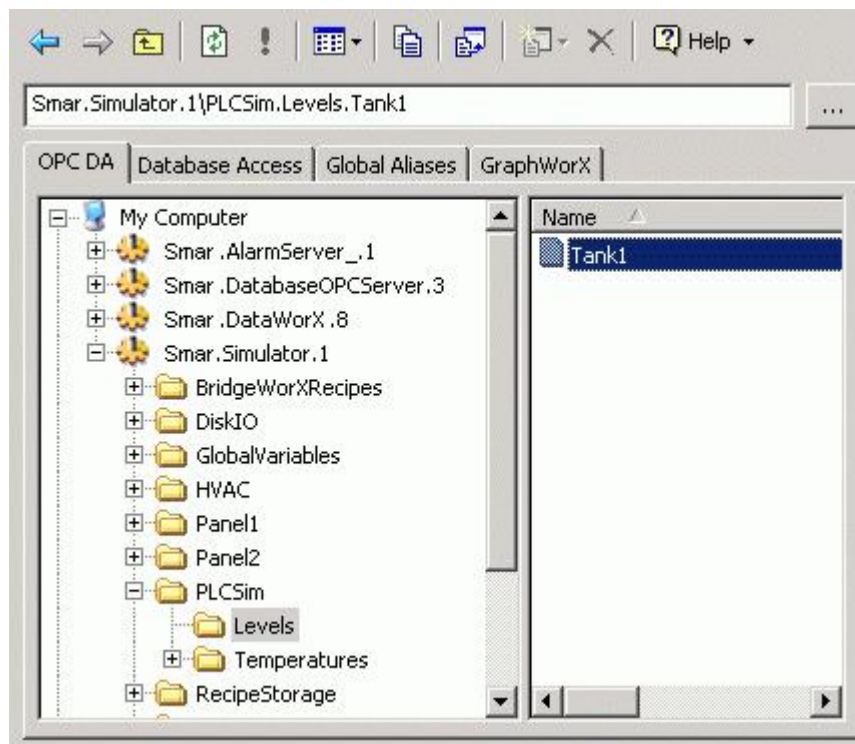

Figure 5.8. Tag Browser
4. The **Unified Data Browser** appears, as shown in **Figure 5.8**. With it, ProcessView components can browse to any OPC Server, from any company, on any node on the network (using the **Internet** and the **Network Neighborhood** choices). In the **OPC DA** tab, navigate to the **Tank 1** OPC tag created in Chapter 4 by expanding **My Computer** and clicking on **Tank 1**, as shown in Figure 5.8. Click **OK**.